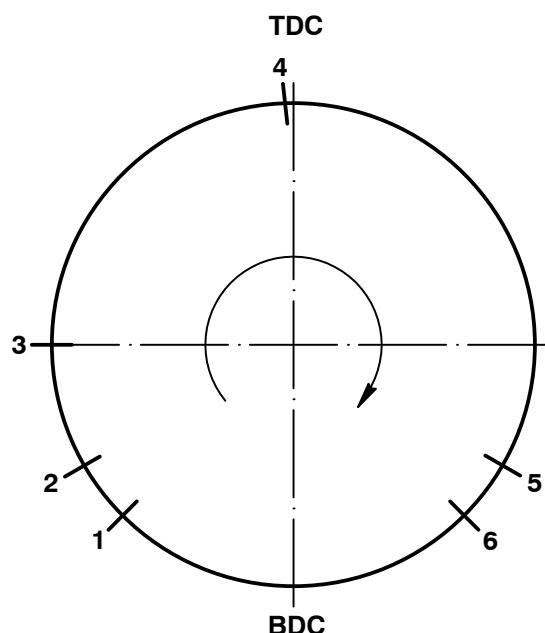

Fig. 2: Schematic Diagram of Engine Operation – Gas Mode
- The piston is at BDC (see Fig. 2 and Fig. 3). The scavenge ports and exhaust valve are open.